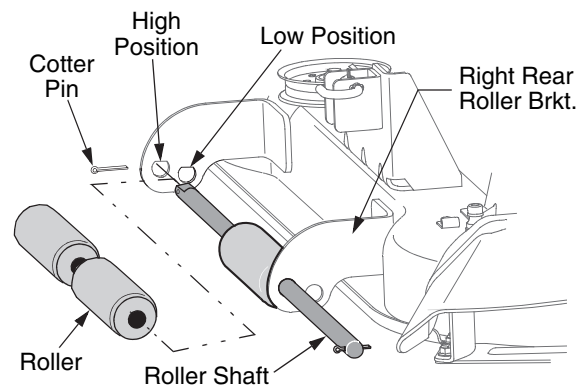

Figure 6-10
- Remove the cotter pin from the left end of the roller shaft. See Figure 6-10.
- Slide the roller shaft to the right and remove the rollers as the shaft is fully withdrawn from the right rear roller bracket. See Figure 6-10.